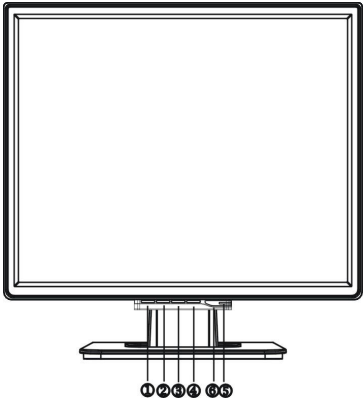

Figure 4 External Control Button
4. After rotation is complete, adjust the screen height to suit your own position. as per Fig. 4.
Press the power button to turn the monitor on or off. The other control buttons are located at front panel of the monitor (See Figure 4). By changing these settings, the picture can be adjusted to your personal preferences.